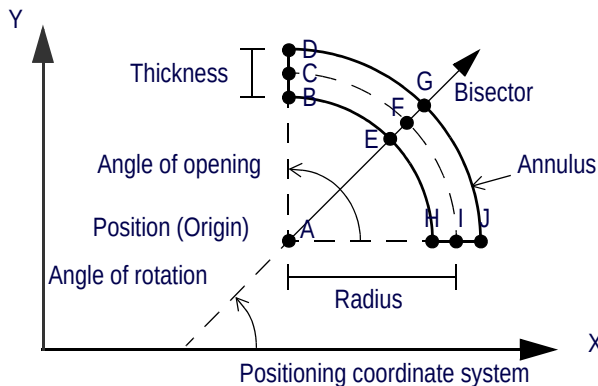

Figure 282 Arc Caliper — Adjusting the Sector
- Move the Sector by dragging its border or its origin located at the intersection of its two bounding radii shown with dotted lines. Handle *A* in Figure 282.
- Adjust the Sector's radius by dragging its center located at the intersection between the bisector and the median annulus. Handle *F* in Figure 282.
- Set the Sector's thickness by dragging any of its four resizing handles located at intersections between its two bounding radii and annuli or by dragging the two resizing handles located at the intersections of the bisector and the two bounding annuli. Handles *B*, *D*, *E*, *G*, *H*, and *J* in Figure 282.
- Set the Sector's opening by dragging any of its four resizing handles located at intersections between its two bounding radii and annuli. Handles *B*, *D*, *H*, and *J* in Figure 282.
- Rotate the Sector by dragging the two intersections between the median annulus and the two bounding radii. Handles *C*, and *I* in Figure 282.